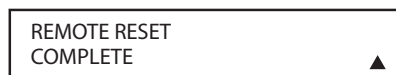

Figure 151.
4. When the remote has been totally reset and returned to the factory default condition, a **REMOTE RESET COMPLETE** message will appear (**Figure 151**) briefly, and then the remote will return to normal operation.